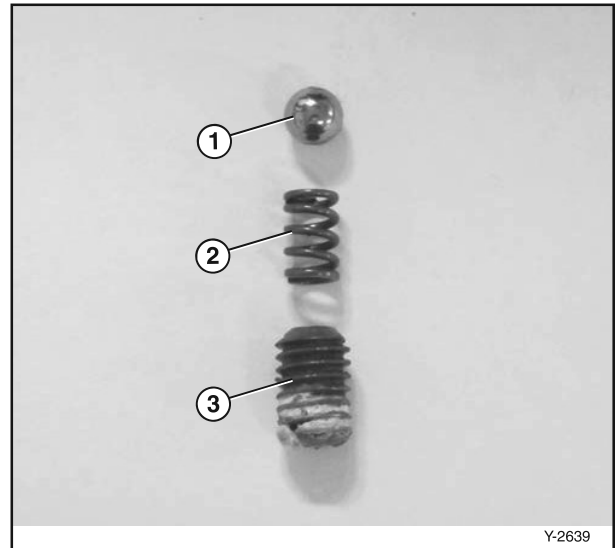

Figure 6-59
7. Install the detent ball (Figure 6-59, (1)), the spring (Figure 6-59, (2)) and the set screw (Figure 6-59, (3)).